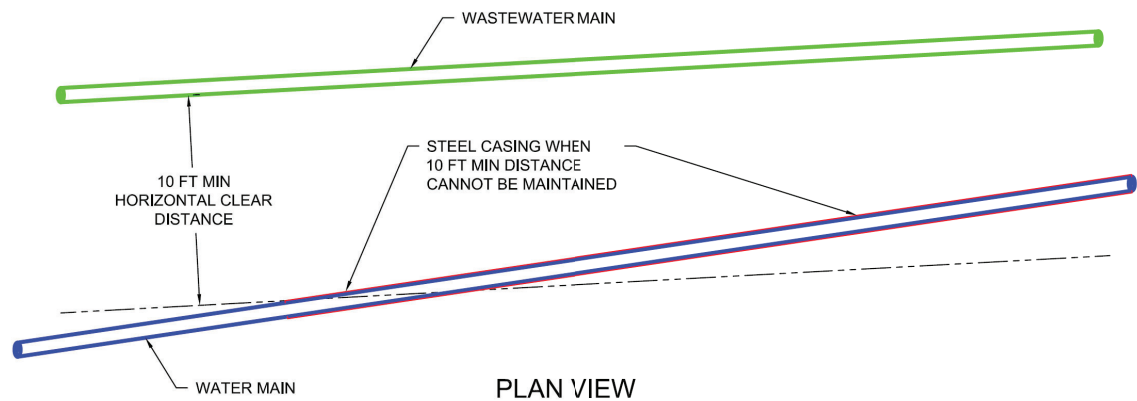

Figure 20 - Horizontal Separation
- 4.9. If separation of the public wastewater main and public water main cannot be achieved either horizontally and the public wastewater main is not design equal to the public water main (equal of same material and pressured tested to be watertight), steel encasement of the public water main is required that extends along the entire length where horizontal clearance of ten (10) feet cannot be maintained. These crossing requirements must be indicated and labeled on all design drawings submitted for review and approval. See Figure 20.